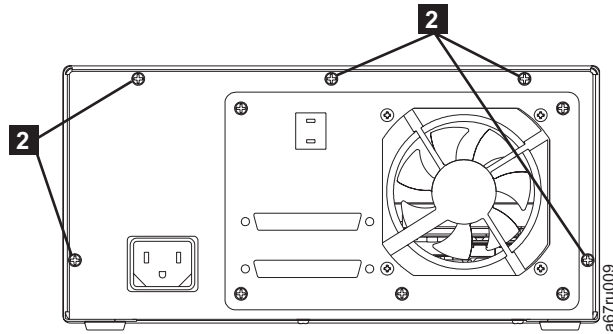

Figure F-2. Removing screws from the rear panel
6. Remove the 5 screws (**2** in Figure F-2 on page F-2) along the outside edges of the sides (1 screw on each side) and the top (3 screws) of the rear panel.